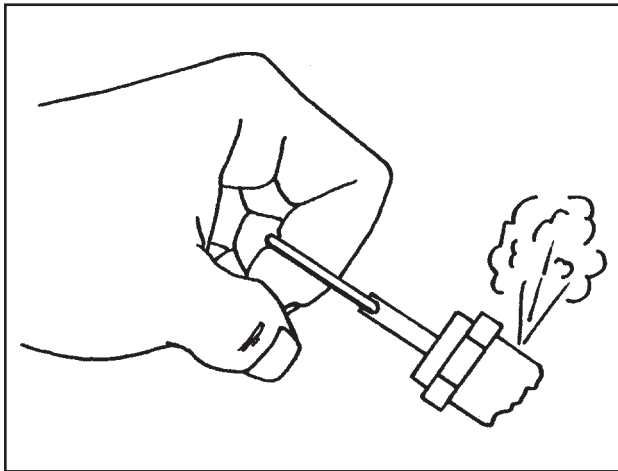

Fig. 3-12 Checking Pressure Relief Valves & Relieving System Pressure
Step 2) Tanks subjected to freezing temperatures may contain ice. Store the compressor in a heated area before attempting to drain moisture from the tanks. Reduce the air pressure in the tank to 30 PSIG by pulling the pressure relief valve ring (refer to **Fig. 3-12, Checking Pressure Relief Valves & Relieving System Pressure**).